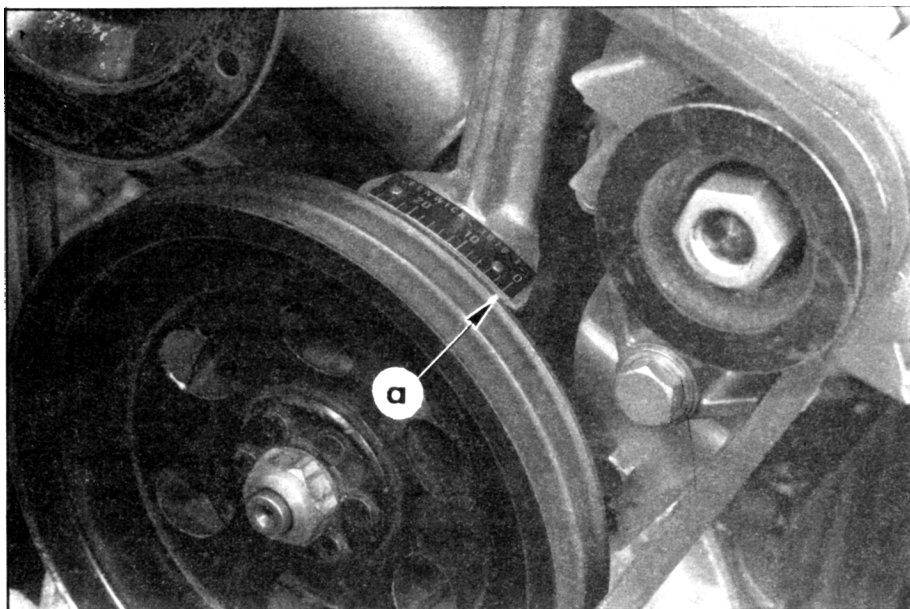

fig. 4
The static advance point having been marked on the drive pulley the position of the mark "a" indicates the distributor advance : the difference "b" should therefore be 4° (fig. 4).
- The mark should be opposite the graduation corresponding to the value given in column C of the table on page 4 (each graduation on the gauge represents 2° distributor : see fig. 4 page 3)